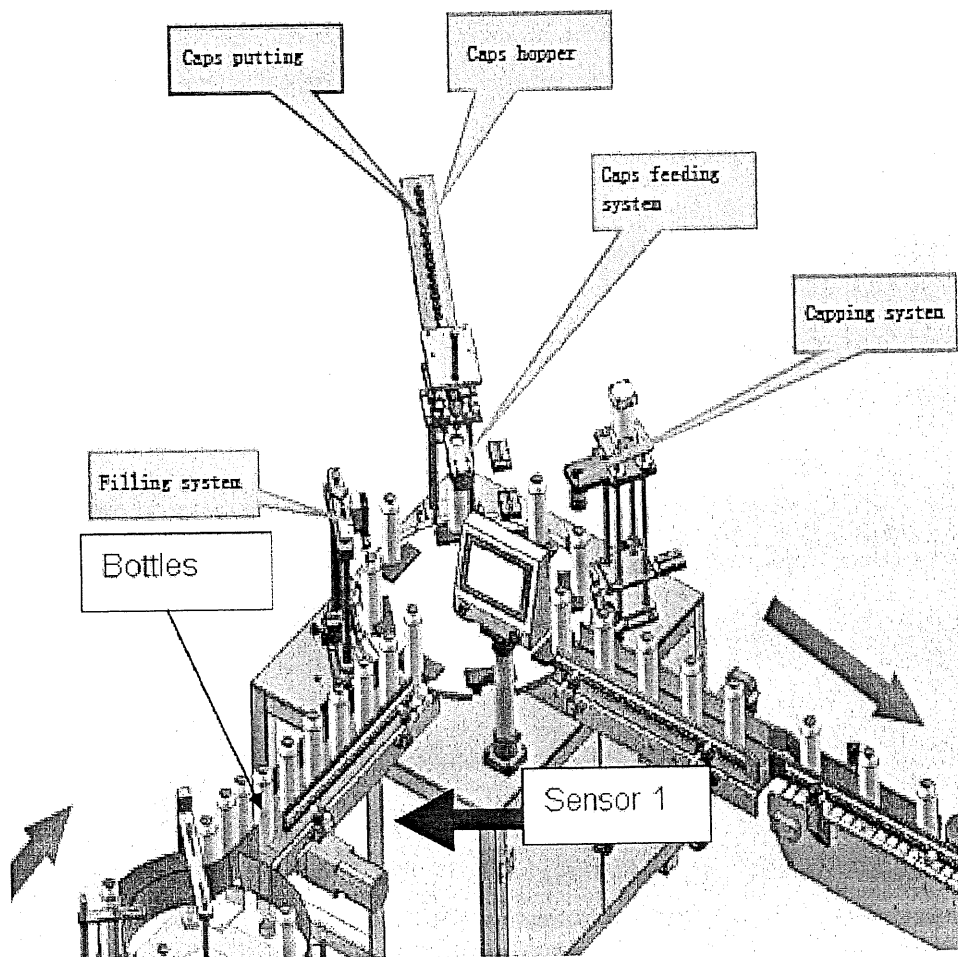

Figure 3
- c) Figure 3 shows an automatic filling and labeling machine, starting with the process of detecting product defects (bottles) by a sensor 1, where if this sensor 1 detects a defect in a bottle, then the process of filling the product into the bottle and placing the bottle cap, to the bottle this defect will not happen, it only goes through as a reject product.